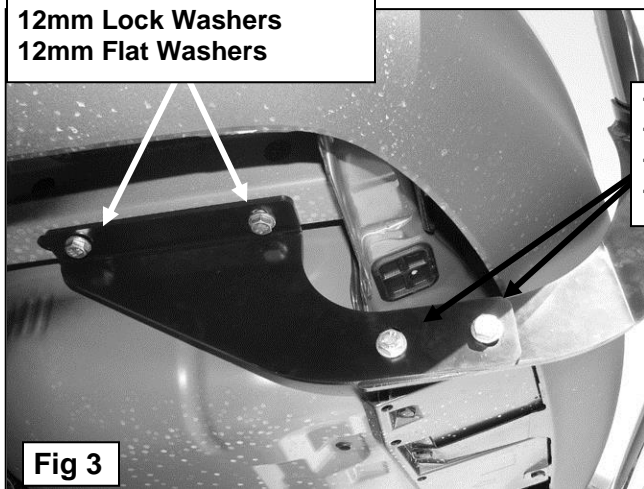

Fig 3
- Attach the driver side Frame Bracket to the bottom of the frame channel frame with the included (2) 12-1.25mm x 35mm **Special Fine Thread** Hex Bolts, (2) 12mm Lock Washers and (2) 12mm Flat Washers, **(Figure 3)**. Snug but do not tighten hardware at this time.
- Select the driver side Bumper Guard Mounting Bracket. Bolt the Mounting Bracket to the inside of the Frame Bracket with the included (2) 12-1.75mm x 30mm Hex Bolts, (2) 12mm Lock Washers, (4) 12mm Flat Washers and (2) 12mm Hex Nuts, **(Figure 3)**. Do not tighten at this time.